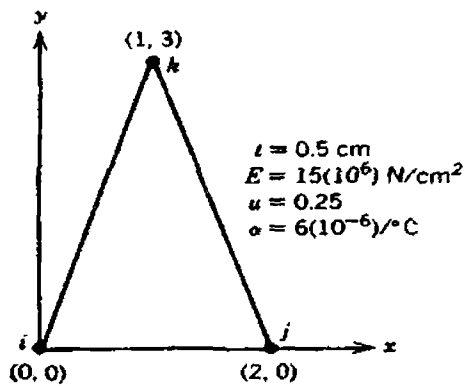

Figure 7 Triangular elastic elements
- (b) Determine the element stiffness matrix and the thermal load vector for the plane stress element shown in Figure 7. The element experiences  $20^\circ\text{C}$  increase in temperature. Take  $E = 15 \times 10^6$  N/cm2,  $\gamma = 0.25$ ,  $t = 0.5$  cm and  $\alpha = 6 \times 10^{-6}/^\circ\text{C}$ .